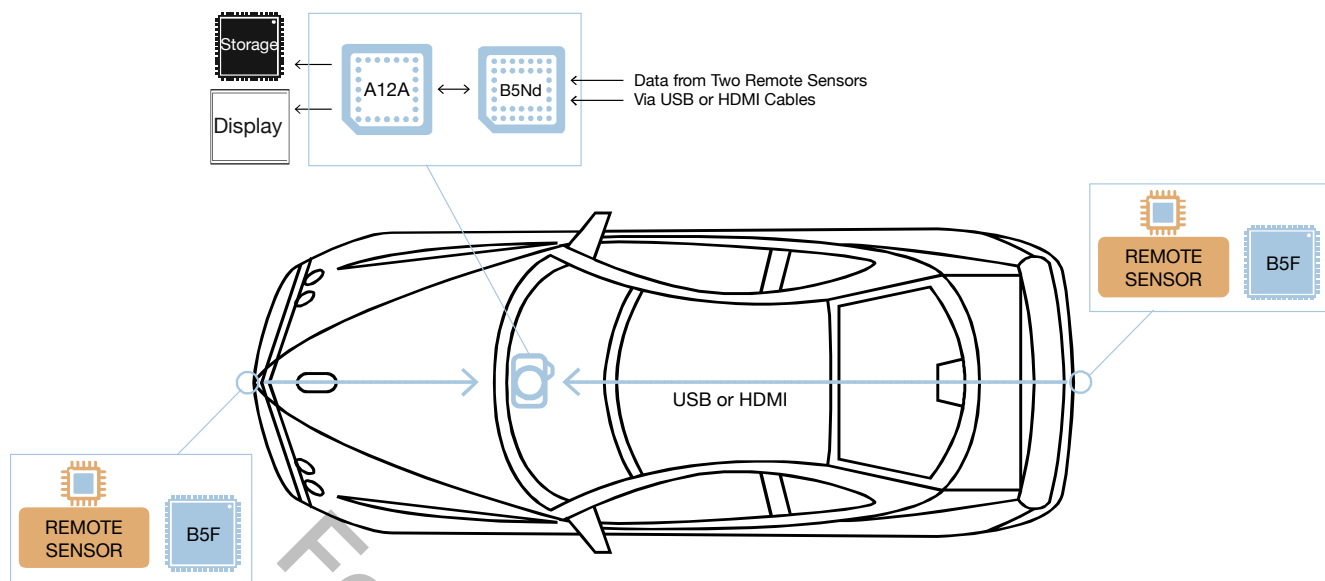

Figure 1-3. A12A55 Automotive Camera Application: Dual Remote Sensor Configuration (B5-Equipped).
1. Two remote sensor inputs are sent to the A12A55 SoC via the Ambarella B5F (serializer) and B5Nd (de-serializer) companion chips (Figure 1-3)